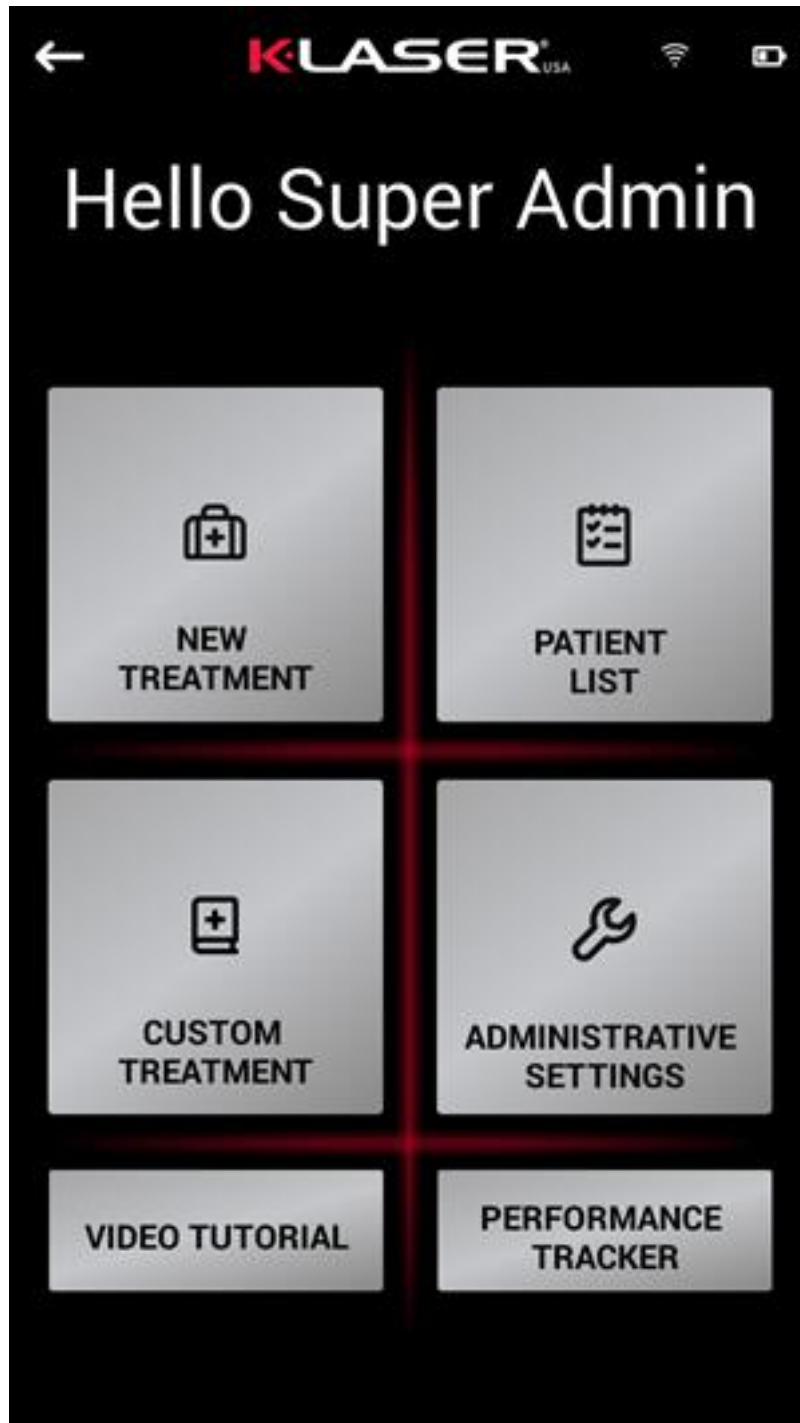

Figure 3: User Selection Interface
3) After entering the PIN code, enter the user selection interface (Figure 3), click on "CUSTOM TREATMENT" to enter the custom treatments interface.